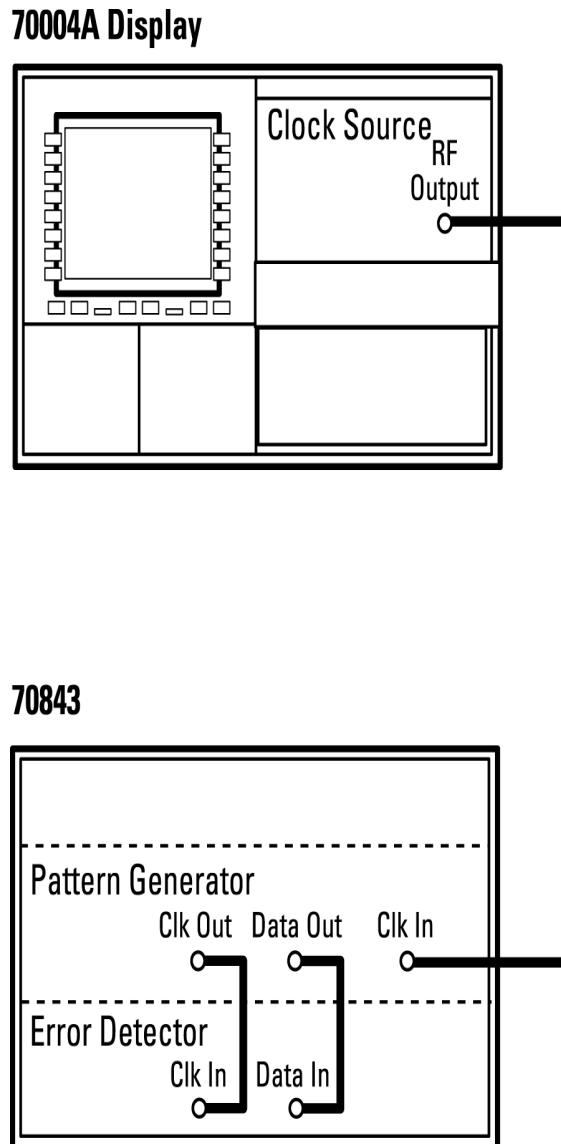

Figure 11-10
1. Connect the equipment as shown in Figure 11-10.